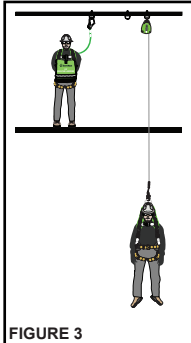

FIGURE 3
2. After a fall event, the employee attempting the rescue must first ensure that the fall victim is conscious and not injured to an extent that would inhibit their ability to use the Rescue Ladder. If the victim is conscious and uninjured, the rescuer will obtain the rescue ladder from its predetermined location (See Figure 3).